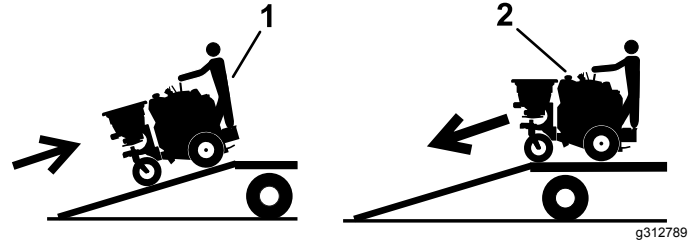

Figure 55
5. Back the machine up the ramp (Figure 55).